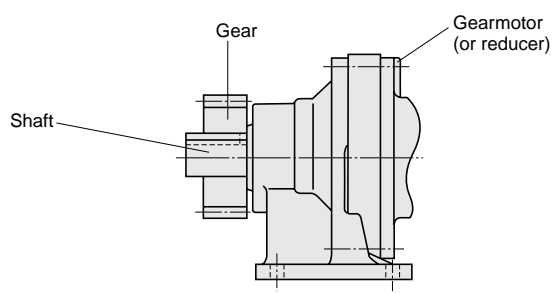
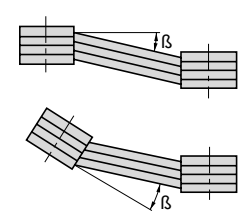

Fig. 7
Fig. 8
(2) When Using a Chain Sprocket and Gear
- Install sprocket and gears so that their point of load application will be closer to the gearmotor or reducer side with respect to the length of the shaft. (Fig.7)
(3) When Using a V-belt
- The parallelism and eccentricity (β) between two pulleys should be within $20'$. (Fig.8)